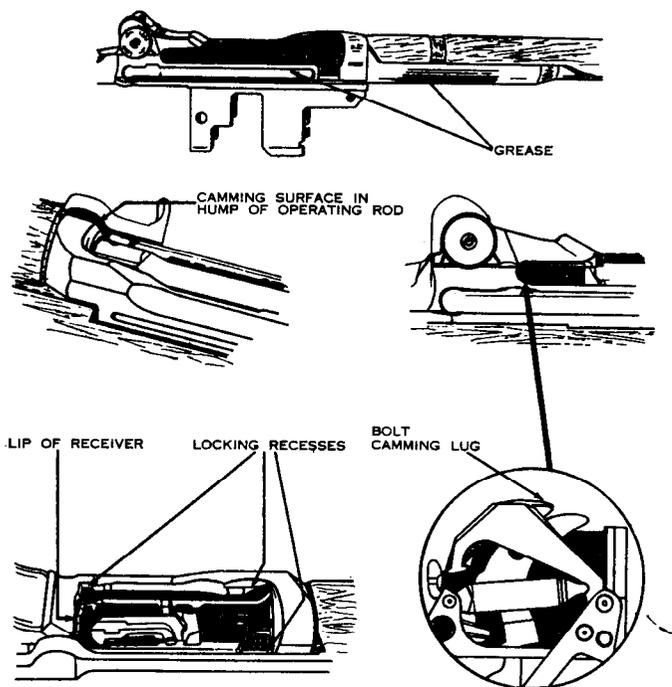

Figure 33. Points to apply rifle grease.
| Failure to feed..... | Lack of lubrication of operating parts..... | Clean and lubricate parts (fig. 33). |
- (1) Lubricating oil, general purpose (PL special) is used for lubricating the rifle at normal temperatures.
- (2) Lubricating oil, weapons (LAW) is used for low temperatures (below 0°).
- (3) OE 10 engine oil may be used as a field expedient under combat conditions when the oils prescribed in (1) and (2) above cannot be obtained. However, the weapon should be cleaned and lubricated with the proper lubricants as soon as possible.
- (4) Rifle grease should be applied to those working surfaces shown in figure 33.
b. Before firing, rifle grease should be applied to the parts indicated in figure 33. A small amount of grease is taken up on the stem of the grease container cap and is applied at each place. Rifle grease is *not* used in extremely cold tempera-